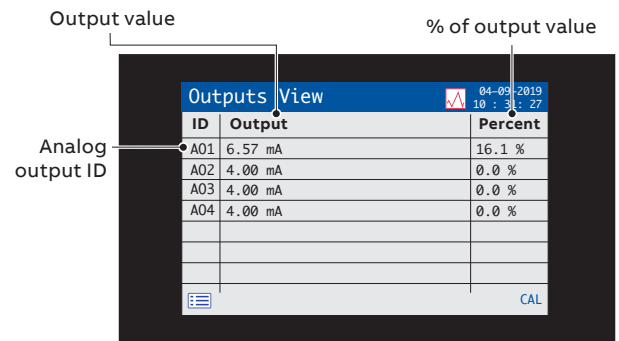

Figure 26 Outputs View
- **Outputs View** – displays a list of the analog outputs, output value and percentage of output value – see Figure 26